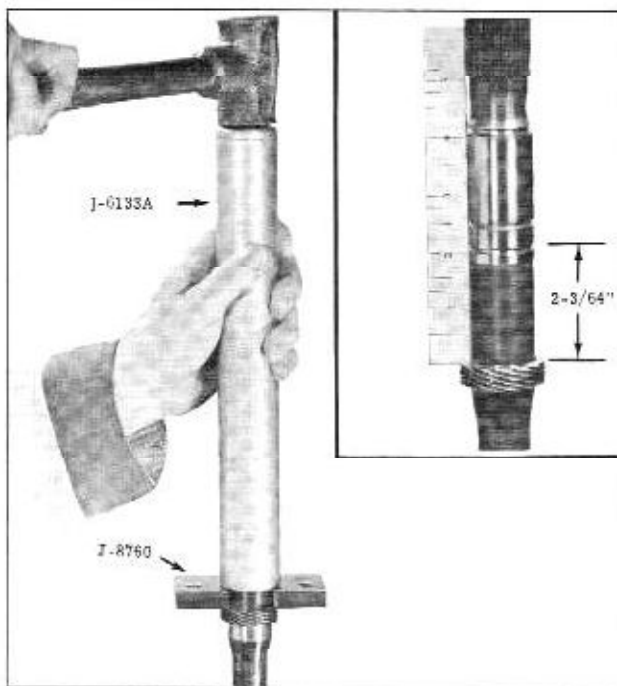

Fig. 3-113 Installing Speedometer Drive Gear
2. Install speedo drive gear using Tool J-6133-A and J-8760-1. Gear must be installed 2-3/64" from nearest snap ring groove. (Fig. 3-113)